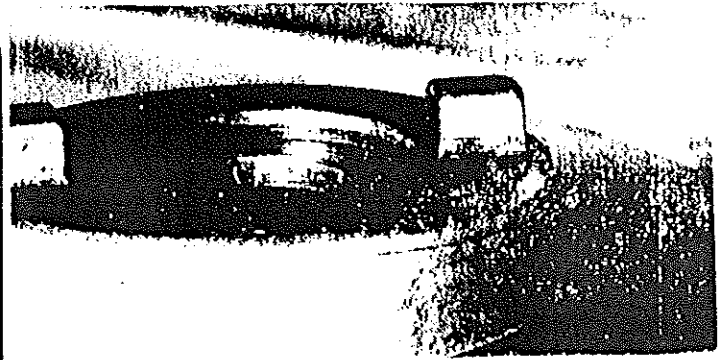

Figure 716. Worn Drive Lug
(3) Inspect drive lugs of body. If wear is noted, measure difference between worn and unworn areas of drive lug surface. If difference is in excess of 0.015 in., reject body (9). See Figure 716.